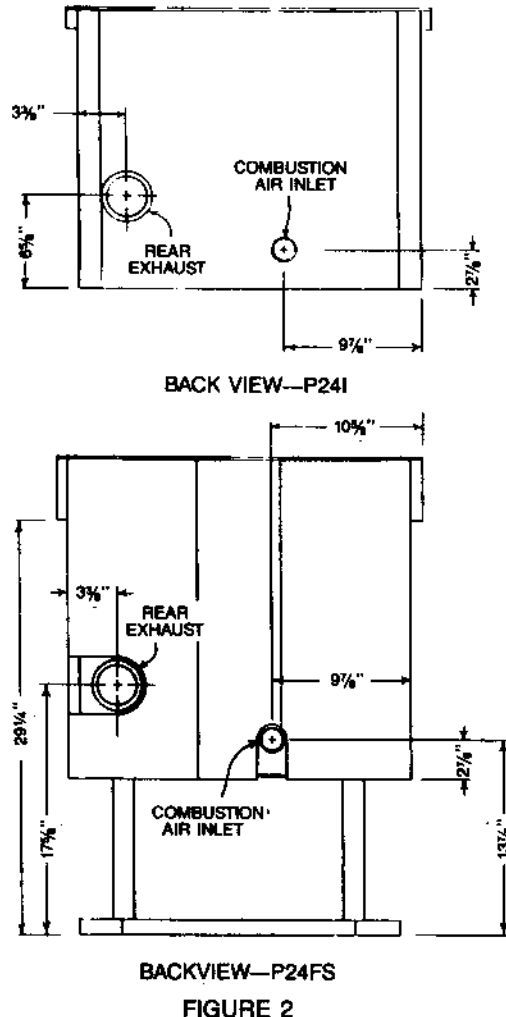

FIGURE 2
For mobile home installation the stove must be connected to an outside source of combustion air. A 1 $\frac{3}{4}$ " inside diameter metallic pipe, either flexible or rigid should be used when outside air is to be connected. It attaches to an outlet on the stove's rear (see figure 2) and its terminus should have a wind hood or be turned 90° to prevent back draft. It should also terminate with a rodent guard. If outside air is not provided, air should NOT be restricted to the combustion air inlet. Hence in P241 installations, flashing vents should be allowed to provide air to the fireplace cavity. The fireplace opening should not be sealed at the face.
2. Locate position of hole in wall, directly behind stove's exhaust vent (see figure 2).